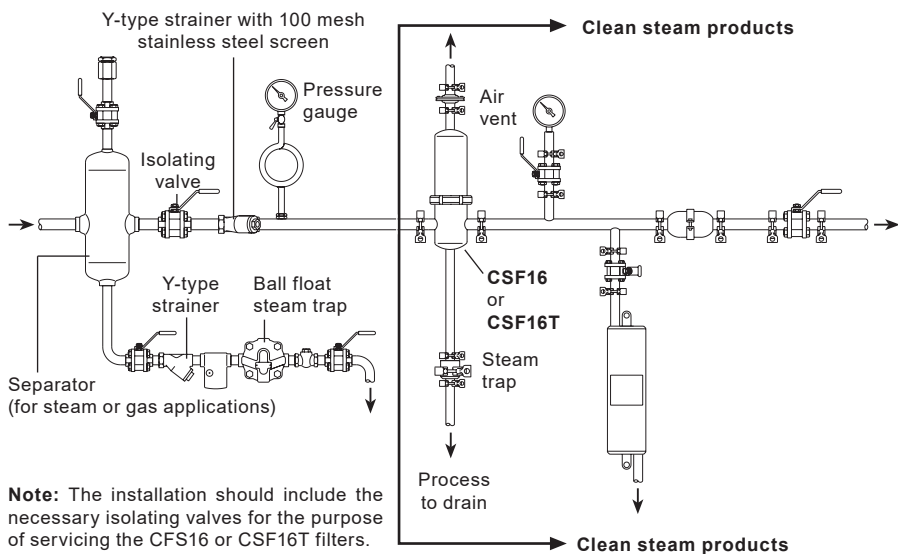
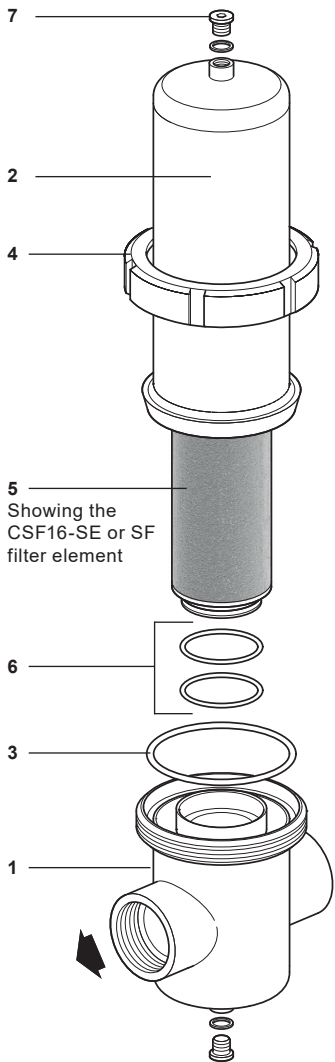

Fig. 5 Typical installation for steam
Fig. 7
5. When used on steam the drain plug and gasket on the filter bowl should be removed and a steam trap installed below the filter. The condensate from this trap should be piped away to drain, or to the receiver of a pump, providing there is no backpressure, i.e. lift, is imposed upon the steam trap (see Figure 5). If it is not possible to install a steam trap at the drain point, then a full size equal tee drain point or inline separator with suitable steam trap should be incorporated into the horizontal pipework prior to the filter. It is recommended that an air vent is fitted to the top connection on the filter head.
Once the pipework installation has been completed in accordance with Section 3 (Fig. 5 or 6) the following steps should be taken in sequence, referencing Fig. 7 and 8, to commission the CSF16 and CSF16T filters: